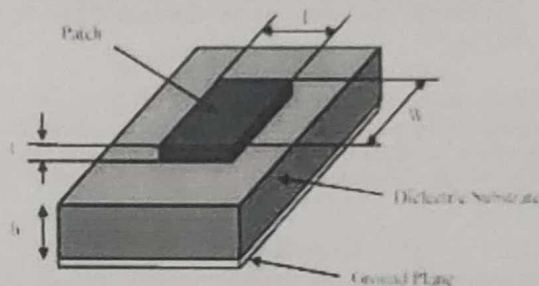

Figure 1. Structure of Microstrip Patch Antenna
2.4GHZ, 3.6GHZ, 4.9GHZ, 5GHZ bands. The IEEE802.16 WiMAX standard allows data transmission using multiple broadband frequency ranges. The original 802.16a standard specified transmission range 10-66GHZ, but 802.16d allowed lower frequencies in the range 2 to 11GHZ. Patch of the Microstrip antenna is made up of copper or gold and it can be of any shapes. It has radiating patch on one side of a dielectric substrate and ground plane on the other side as shown in fig.1